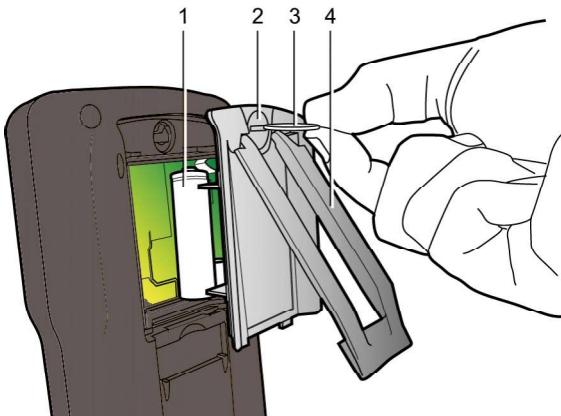

Figure 7-1
The 8230 is powered by six rechargeable NiMH storage batteries (Figure 7-1, item 1) having a capacity of at least 1800 mAh.
To access the batteries, turn the 8230 over and turn the lock one-quarter turn (Figure 7-1, item 2) counter-clockwise using a coin (Figure 7-1, item 3).